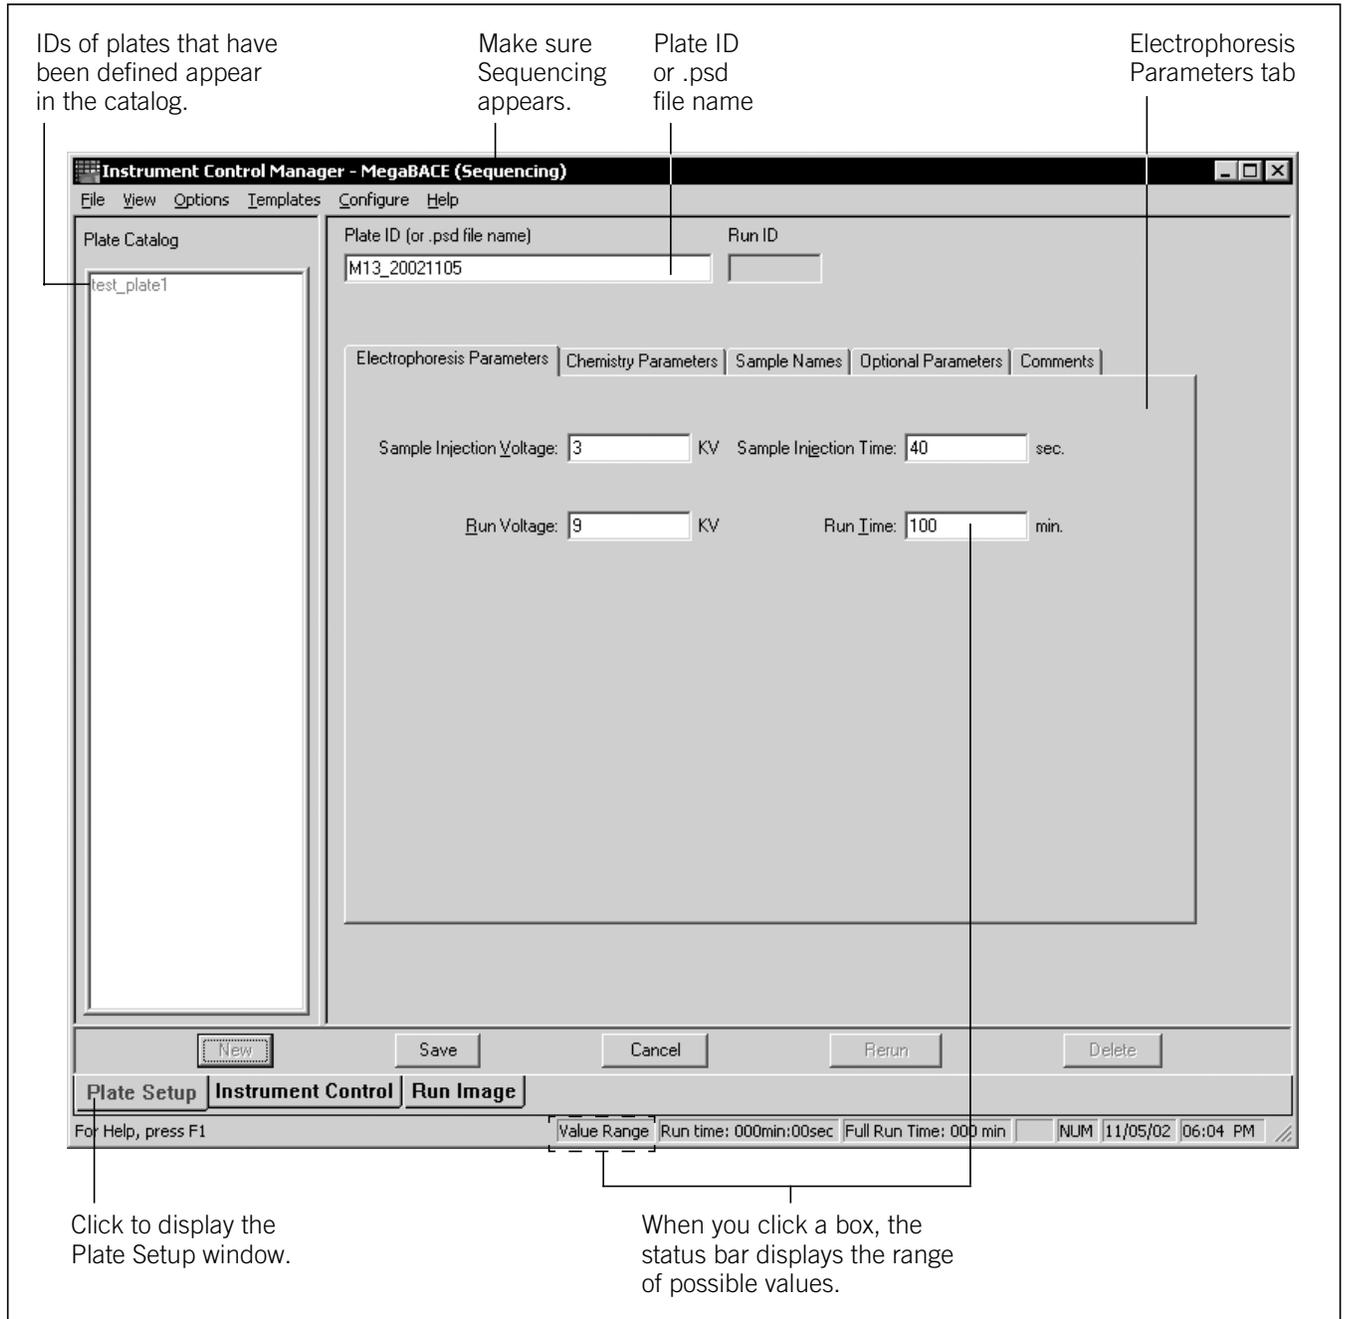

Figure 6-1. The Plate Setup window for sequencing.
2. Click the **Plate Setup** tab at the bottom of the Instrument Control Manager window. The title bar of the Plate Setup window (figure 6-1) displays the name of the selected application.
- Electrophoresis Parameters tab (figure 6-1)
Electrophoresis Parameters (figure 6-1)	<p>The electrophoresis parameters are—</p> <ul style="list-style-type: none"> • Sample injection voltage and time • Run voltage and time <p>All the boxes in the tab must contain values. To display the range of values for a given parameter, click the corresponding box. The range appears in the status bar at the bottom of the window.</p>